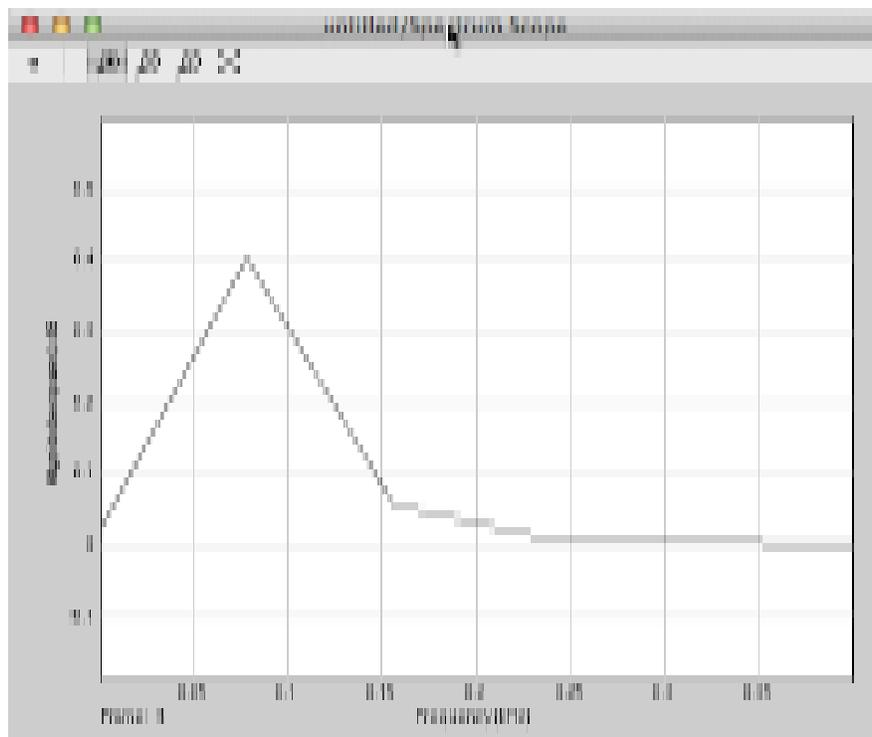

Figure 8. Spectrum Scope Display
3. Before running the simulation, open the configuration parameters and reset the simulation stop time to 30 ms (slightly greater than the 25.6ms). Run the simulation. The Spectrum Scope window will open and you will see a small non zero value displayed. Zoom in to the area around this signal and you should see a display similar to the one shown below in figure 8.